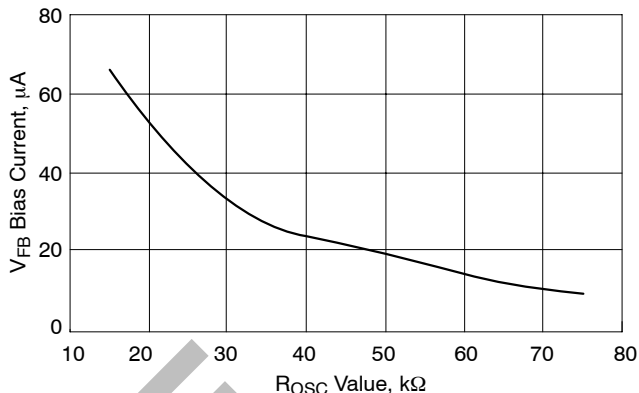

Figure 4. VFB Bias Current vs. ROSC Value
2. The  $V_{\text{FB}}$  Bias Current changes with the value of  $R_{\text{OSC}}$  per Figure 4.
To set the no-load positioning, a resistor is placed between the output voltage and  $V_{FB}$  pin. The  $V_{FB}$  bias current will develop a voltage across the resistor to decrease the output voltage. The  $V_{FB}$  bias current is dependent on the value of  $R_{OSC}$ . See Figure 4 on the datasheet.